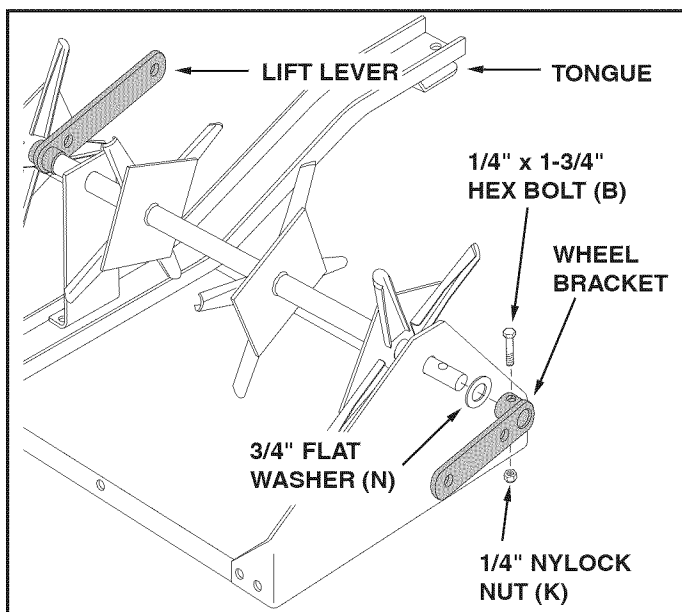

FIGURE 8
- Standing behind the tray, place the **long end** of the shaft through the end plate on your right as shown in figure 8. Place the other end of the shaft through the end plate on your left. Make sure the bent end of the middle brace rests flat inside the tongue.
- Assemble a 3/4" flat washer (N) and a wheel bracket onto each end of the shaft. Turn each wheel bracket to point in the opposite direction from the lift lever. Secure each wheel bracket with a 1/4" x 1-3/4" hex bolt (B) and 1/4" nylock nut (K). **Tighten.** See figure 8.